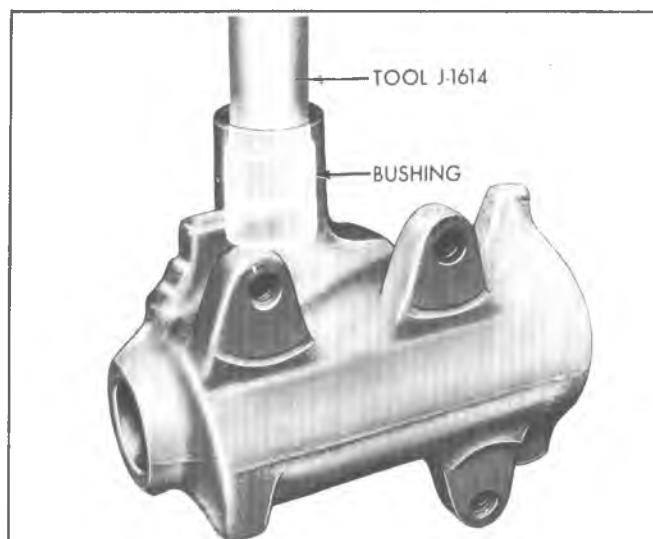

Fig. 3B-8A--Removing Pitman Shaft Bushing--Typical
1. **All Except Corvette--** Remove the wormshaft bearing race using Tool J-5822 and a Slide Hammer as shown in Figure 3B-9A.